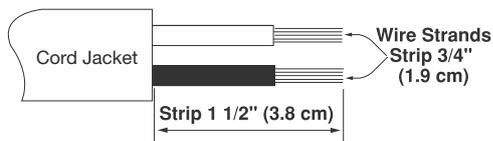
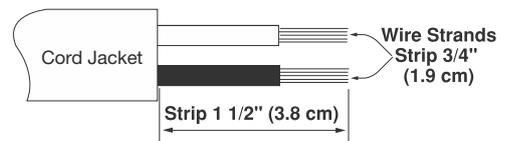

Fig. 1a
Fig. 1b
5. Strip cord jacket 15/16" (2.38 cm). Strip each conductor insulation 9/16" (1.43 cm) as per **Fig. 1a & Fig. 1b**.
2. Strip cord jacket 1 3/4" (4.4 cm) . Strip insulation to expose 3/4" bare copper at the end of each conductor per strip gauge on device. Trim off cord fillers if any. Twist stranded conductors prior to wrapping around terminal screws. **DO NOT TIN CONDUCTORS (Fig 1a & Fig 1b).**
Strip cord jacket 1 1/2" (3.8 cm) max. Strip insulation to expose 3/4" bare copper at the end of each conductor per strip gauge on device. Trim off cord fillers, fony, twist stranded conductors prior to wrapping around terminal screws. DO NOT TIN CONDUCTORS (Fig. 1a & Fig 1b).